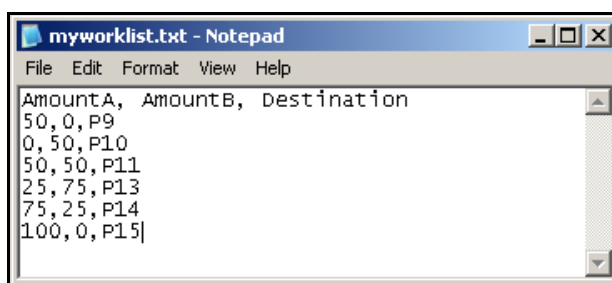

Figure 4-2. Created worklist
1. Using Notepad or Microsoft® Excel, create a text file that looks like Figure 4-2.